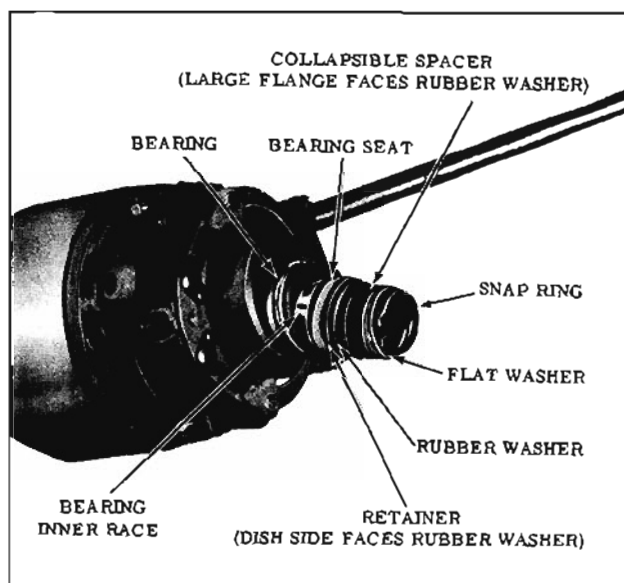

Fig. 8-115 Installing Upper Shaft Parts
6. Install the upper bearing (roller facing up), bearing inner race, bearing seat (flanged portion up, retainer (dish facing up), rubber washer, a new collapsible spacer and washer. (Fig. 8-115)